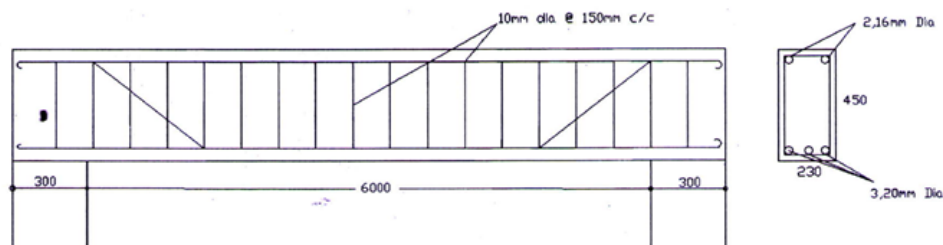

Figure 1: RCC Beam for Bar Bending Schedule
1. Prepare Bar Bending Schedule of the RCC beam shown in Figure 1.